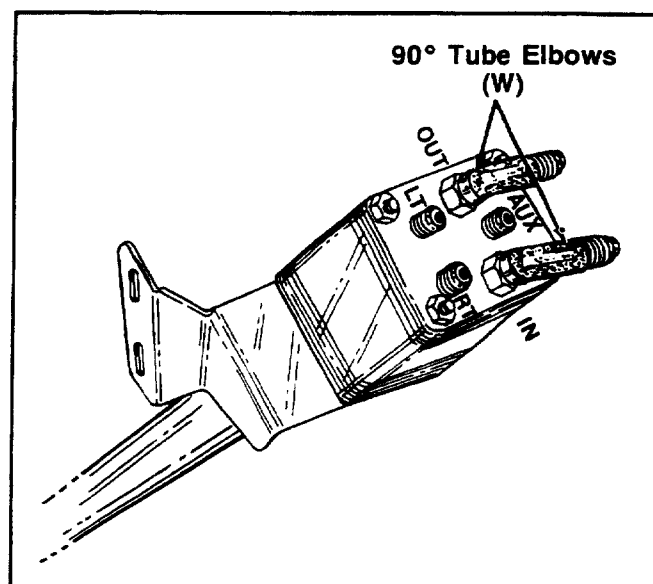

FIGURE 15.
7. Assemble two 90° tube elbows male/female (W) to the ports marked "IN" and "OUT" on bottom of steering column assembly as shown in figure 15. Tighten securely at this time.